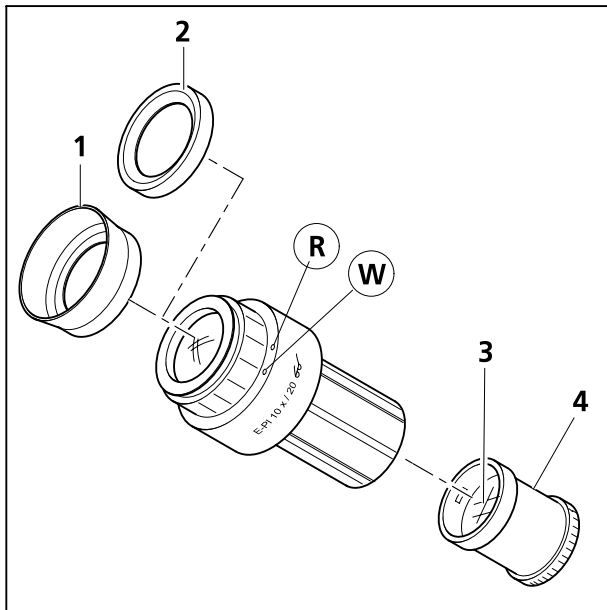

Fig. 3-5 Inserting an eyepiece graticule
The slight image shift caused by the added glass is reversed when the zero position is marked by the red dot (Fig. 3-5/**R**) and not the white one (Fig. 3-5/**W**).
The eyepiece graticules (Fig. 3-5/**3**) are glued into screw-in lens parts (Fig. 3-5/**4**) and can thus be changed easily. Complete lens parts with glued-in graticules can be ordered from Zeiss.
- Unscrew the lens part (Fig. 3-5/**4**) with the eyepiece graticule (Fig. 3-5/**3**) and remove it. Then insert the new lens part with the eyepiece graticule.
- Pull the rubber rings (Fig. 3-5/**2**) from the eyepieces, then insert the eye guards (Fig. 3-5/**1**) instead.